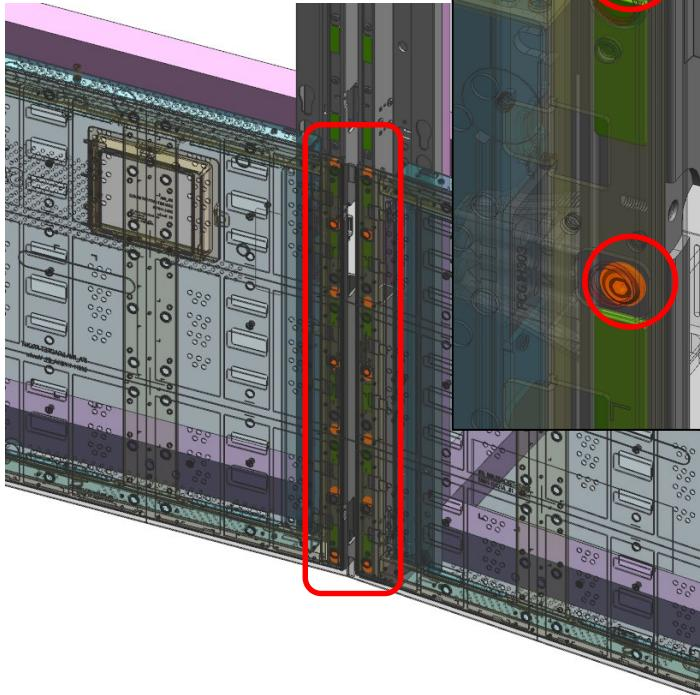

Fig.1
③ Adjust the left and right Z SEAM using the SCREW of the ASSY FRAME V while installing the first stage CABINET. (Fig.1)